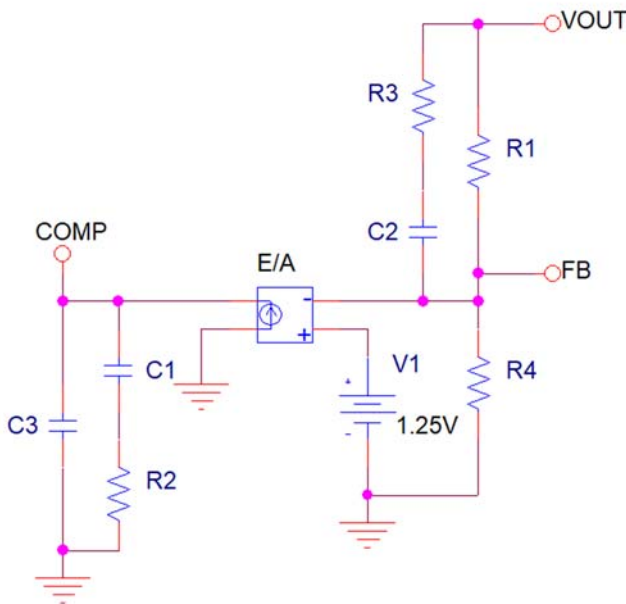

Figure 7: Type-3 Compensation Feedback Network
The output voltage is set via a resistor divider, part of the feedback compensation network connected to the feedback (FB) pin - refer to Figure 7. Choose R4 in a range of 5 kΩ to 100 kΩ, then use Equation (6) to calculate the value of R1 that yields the desired output voltage.
The typical SZPL3102A/3103A application is likely to employ a relatively small output filter, comprised mostly of ceramic capacitors. Given the ceramics' low equivalent series resistance, the filter requires more frequency compensation network design flexibility, prompting the need for user-adjustable external components. Figure 7 exemplifies a typical type-3 network used for this purpose.
components shown in Figure 7. These blocks, working in tandem, regulate the output voltage and provide stable operation in response to input voltage, output voltage, and output load changes. Equations (7) through (10) describe the frequency response of the system while operating in CCM.
- R1, R2, R3, R4, C1, C2, C3 are the feedback network components, as shown in Figure 7